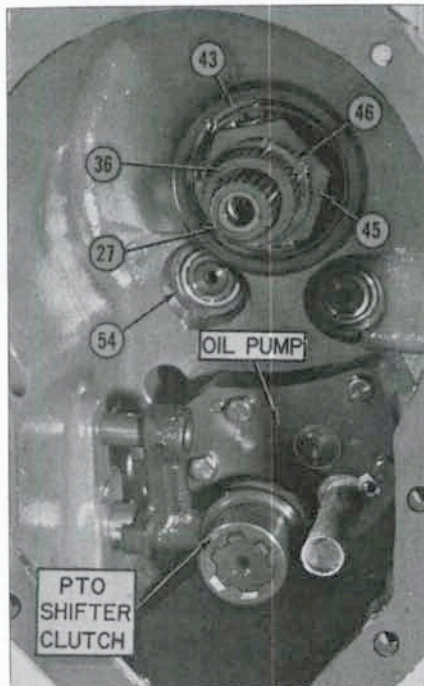

Fig. 105 — View into D-17 "Power-Director" compartment showing the inner clutch shaft (27) and the outer (hollow) shaft (36).
To remove the outer clutch shaft, it is necessary to first split the tractor between transmission and torque housing as outlined in paragraph 180; then, proceed as follows: Remove snap rings (43 and 46—Fig. 105), then bend tabs on lockwasher away from nut (45) and remove the nut and lockwasher. Using a tool similar to that